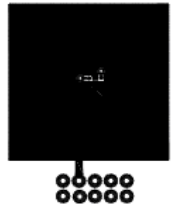
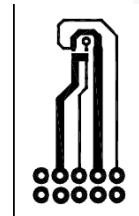

Figure 4. 1 Square Inch of 2-ounce copper
Figure 5. Minimum Pads of 2-ounce Copper
$T_A = 25^\circ\text{C}^{(2)}$ (see Figure 5)	0.9
- The device power dissipation and thermal resistance ( $R_\theta$ ) are characterized with device mounted on the following FR4 printed circuit boards, as shown in Figure 4 and Figure 5